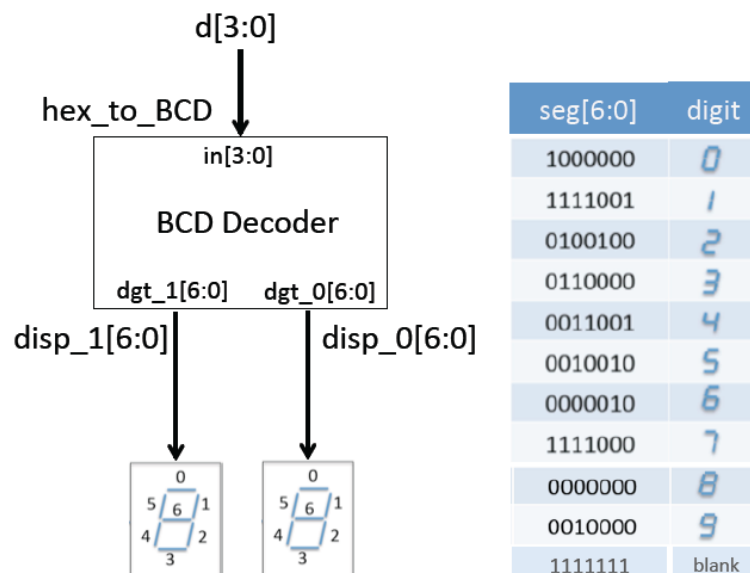

Figure 1.1
1. (a) *Figure 1.1* shows a decoder circuit `hex_to_BCD` that decodes a 4-bit binary number `d[3:0]` into two binary coded decimal (BCD) digits: `disp_1[6:0]` and `disp_0[6:0]`, which drive two 7-segment displays. The leftmost display (`disp_1`) should either be blank or shows the digit 1. For example, if `d[3:0] = 4'b0101`, the value 5 is displayed; if `d[3:0] = 4'b1100`, the value 12 is displayed.
The mapping of the 7-segment display inputs `seg[6:0]` to the segments is also shown in *Figure 1.1*.